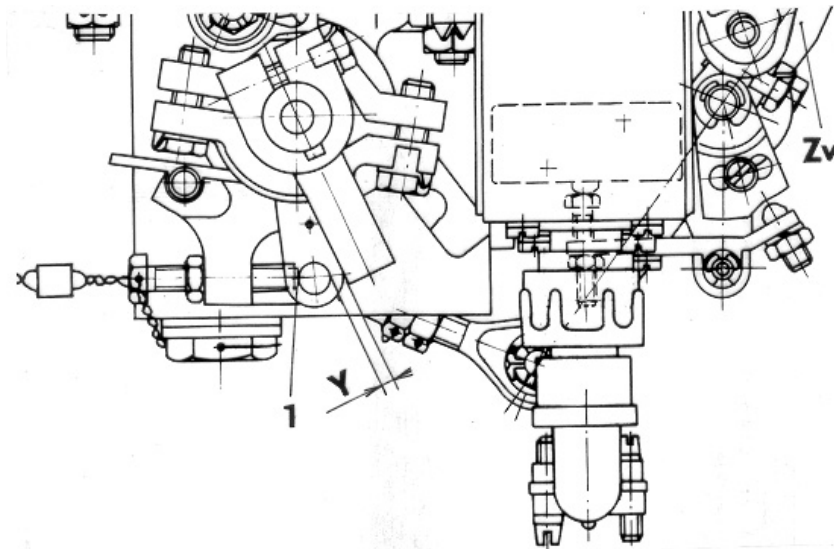

Fig.501 The „Y“ dimension Adjustment
- the „Bc“ lever bears on the stop 1, see Fig. 501
- 5.7 After final adjustment and measurement of the clearance on the slide blocks carrier, tighten both nuts of the rod-element 32 using spanner (see Fig. 501 – left and right hand thread) and secure carefully according to para 061.20.01, page 431.